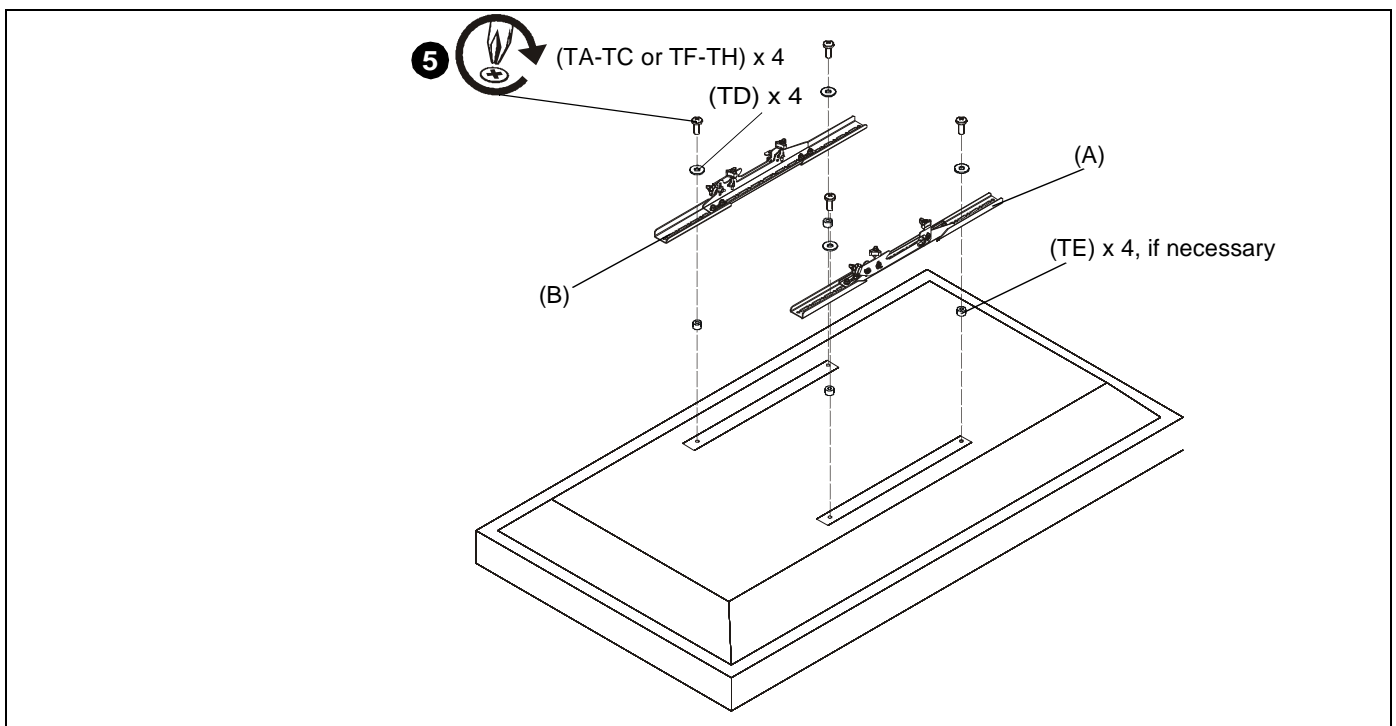

Figure 5
2. Select screw *diameter* by examining hardware (MA-MC and MF-MH) (6mm or 8mm) and comparing with mounting holes on display. (See Figure 5)
- If mounting holes are recessed, or if protrusions prevent brackets (A and B) from laying flat, then spacers (TE) must be used.
4. Select screw *length*: (See Figure 5)
- Using your hand, insert **SHORTEST** length screw of selected diameter (TA or TF) through 1/4" washer (TD), bracket (A or B), selected spacer (TE, if required), into display mounting hole. Do **NOT** thread screw into hole at this time.
5. Use selected screws (TA-TC or TF-TH), washers (TD) and spacers (TE), if necessary, to connect interface brackets (A and B) to back of display. Make sure diamond on interface brackets is even with center of display. (See Figure 5)